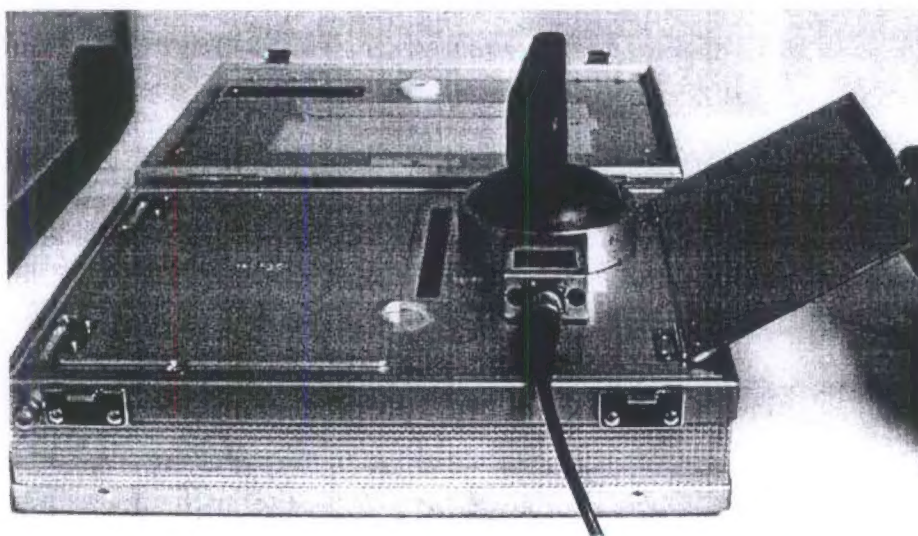

Figure 6. Configuration of DT-304/PD during source check.
2.2. SOURCE RESPONSE CHECK FOR DT-304/PDR. Unlock and open the kit on a level surface in an area with low background radiation. Open the aluminum cover over the Technetium-99 radioactive source. Place the DT-304/PDR beta probe in the embossed area over the source (see Figure 6).